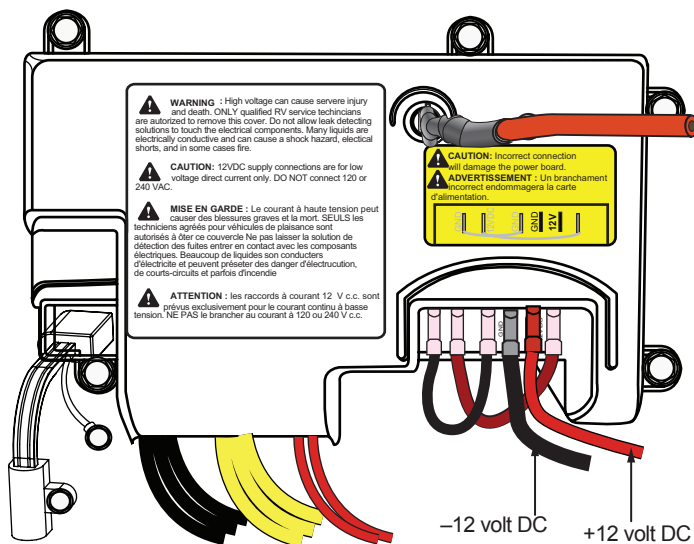

Figure 5-1. — DC power connections polarity.
- + 12 volt DC (positive) has to be connected to power board terminal **12VDC**. See Figure 5-1.
- 12 volt DC (negative) has to be connected to power board terminal **GND**. See Figure 5-1.